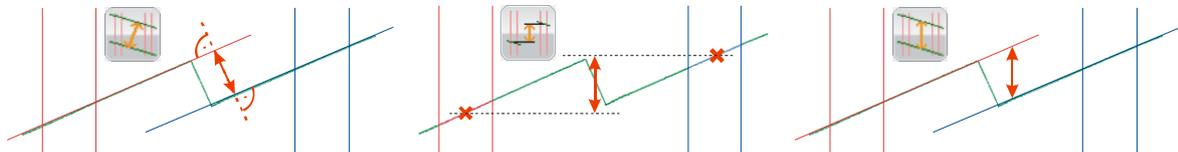
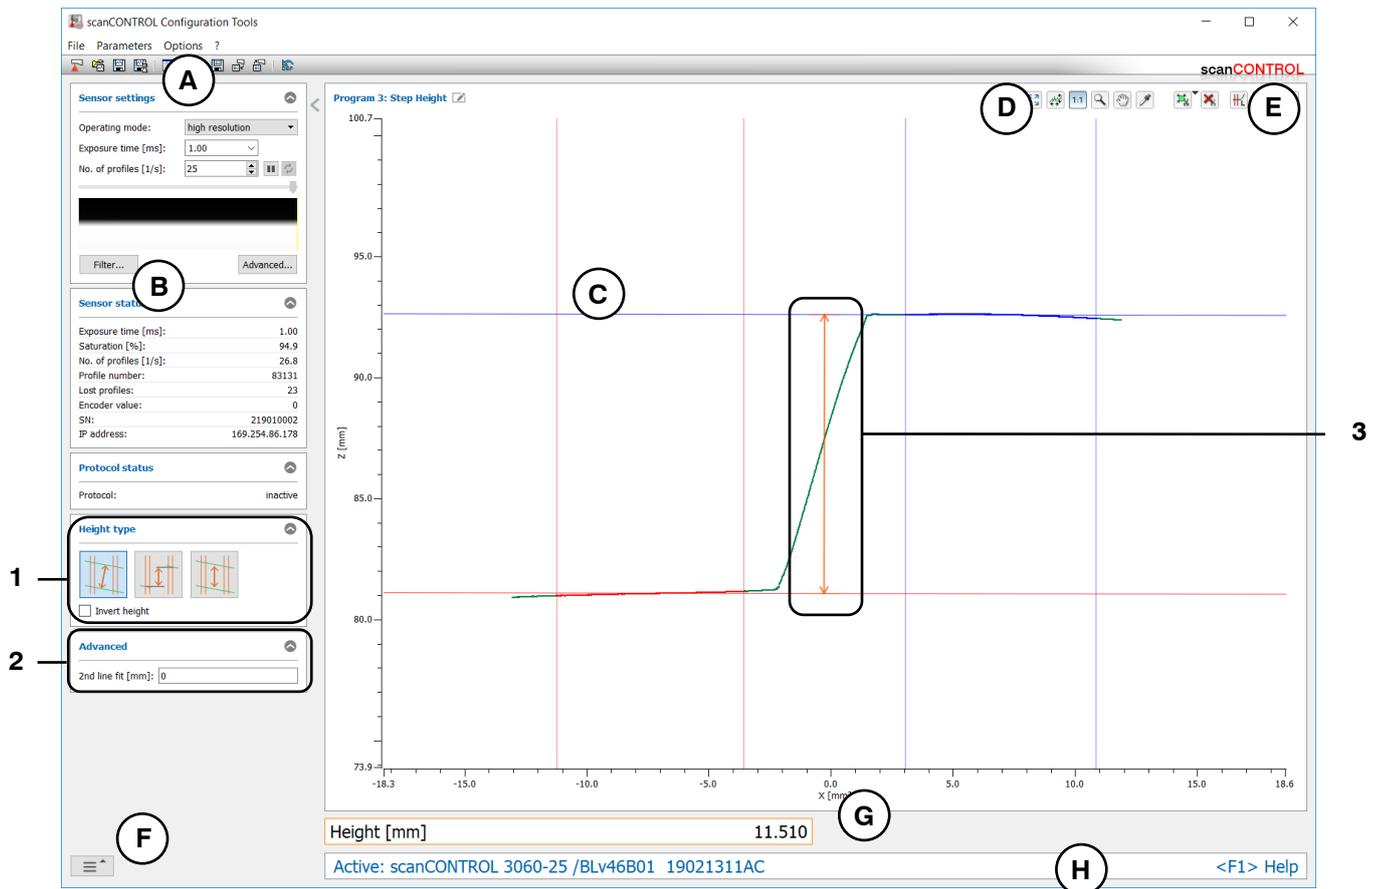

Fig. 4.16: Algorithms for height calculation
Fig. 4.17: "Step Height" measuring program
- Define the algorithm for the calculation of the height (see Fig. 4.16, Fig. 4.17 and Chapter 3.13.1):
- If necessary, invert the sign of the height (see Fig. 4.17).
- 1 Height type:** In this input field, select the algorithm for the calculation of the height (see Fig. 4.16) and invert the sign of the height, if necessary.